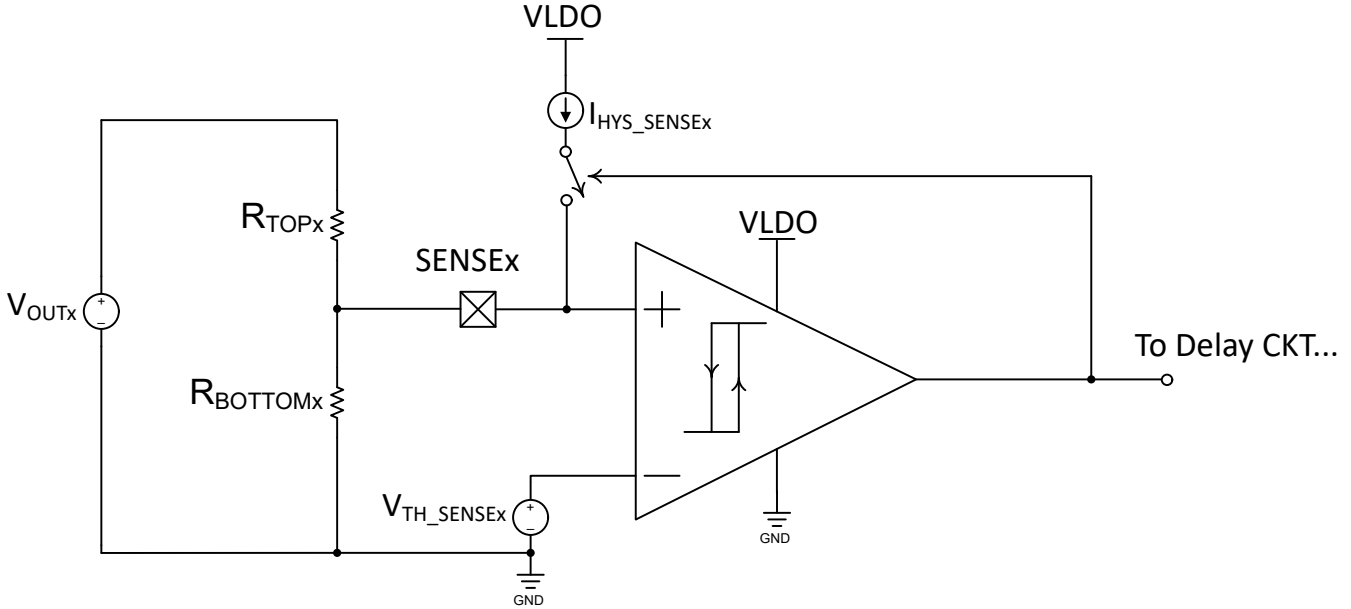

图 7-2. SENSEx Comparators Inputs
The TPS7H3014 sequencer integrates four under-voltage (UV) comparators, with an accurate ($\pm 1\%$) threshold voltage (V_{TH_SENSEX}) of 599mV nominal. V_{TH_SENSEX} is measured at the ENx outputs to account for comparator offsets in the threshold. Maximum flexibility is provided as external resistive dividers can be adjusted to sense any voltage rail (V_{OUTx}). 图 7-2 shows a conceptual diagram of the comparators connected to the SENSEx inputs. As can be observed, the sensed voltage rail (V_{OUTx}) is attenuated (using an external resistive divider, R_{TOPx} and $R_{BOTTOMx}$) and compared against the V_{TH_SENSEX} voltage. It is recommended to maintain the steady-state SENSEx voltage below 1.6V, in order to maintain the threshold (V_{TH_SENSEX}) accuracy.
The TPS7H3014 has a built-in hysteresis current of $24 \mu A$ with an accuracy of $\pm 3\%$ (with $R_{HYS} = 50k\Omega$). The hysteresis current is equivalent to $REFCAP/R_{HYS}$. A tolerance of 0.1% for the R_{HYS} is recommended as it ultimately affects the hysteresis current accuracy. This current is mirrored internally across all SENSEx inputs. This hysteresis current becomes active when the SENSEx voltage is greater than the threshold voltage (599mV $\pm 1\%$), same as $V_{OUTx} > V_{ONx}$ (Refer to 方程式 3 and 图 7-2). This current (I_{HYS}) multiplied by the R_{TOPx} resistance induces a voltage (V_{HYSx}) that is added to the SENSEx node, effectively boosting (incrementing) the node voltage. During sequence down, or an undervoltage event when the V_{OUTx} is decrementing, it will need to drop below the V_{OFF} voltage in order to be considered as an out of regulation (or fault). The hysteresis voltage is defined as: